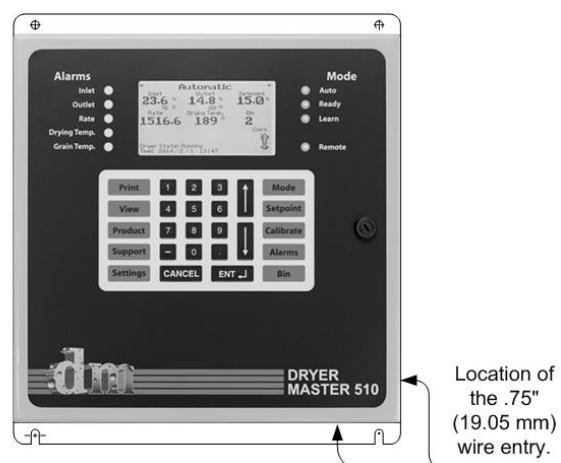
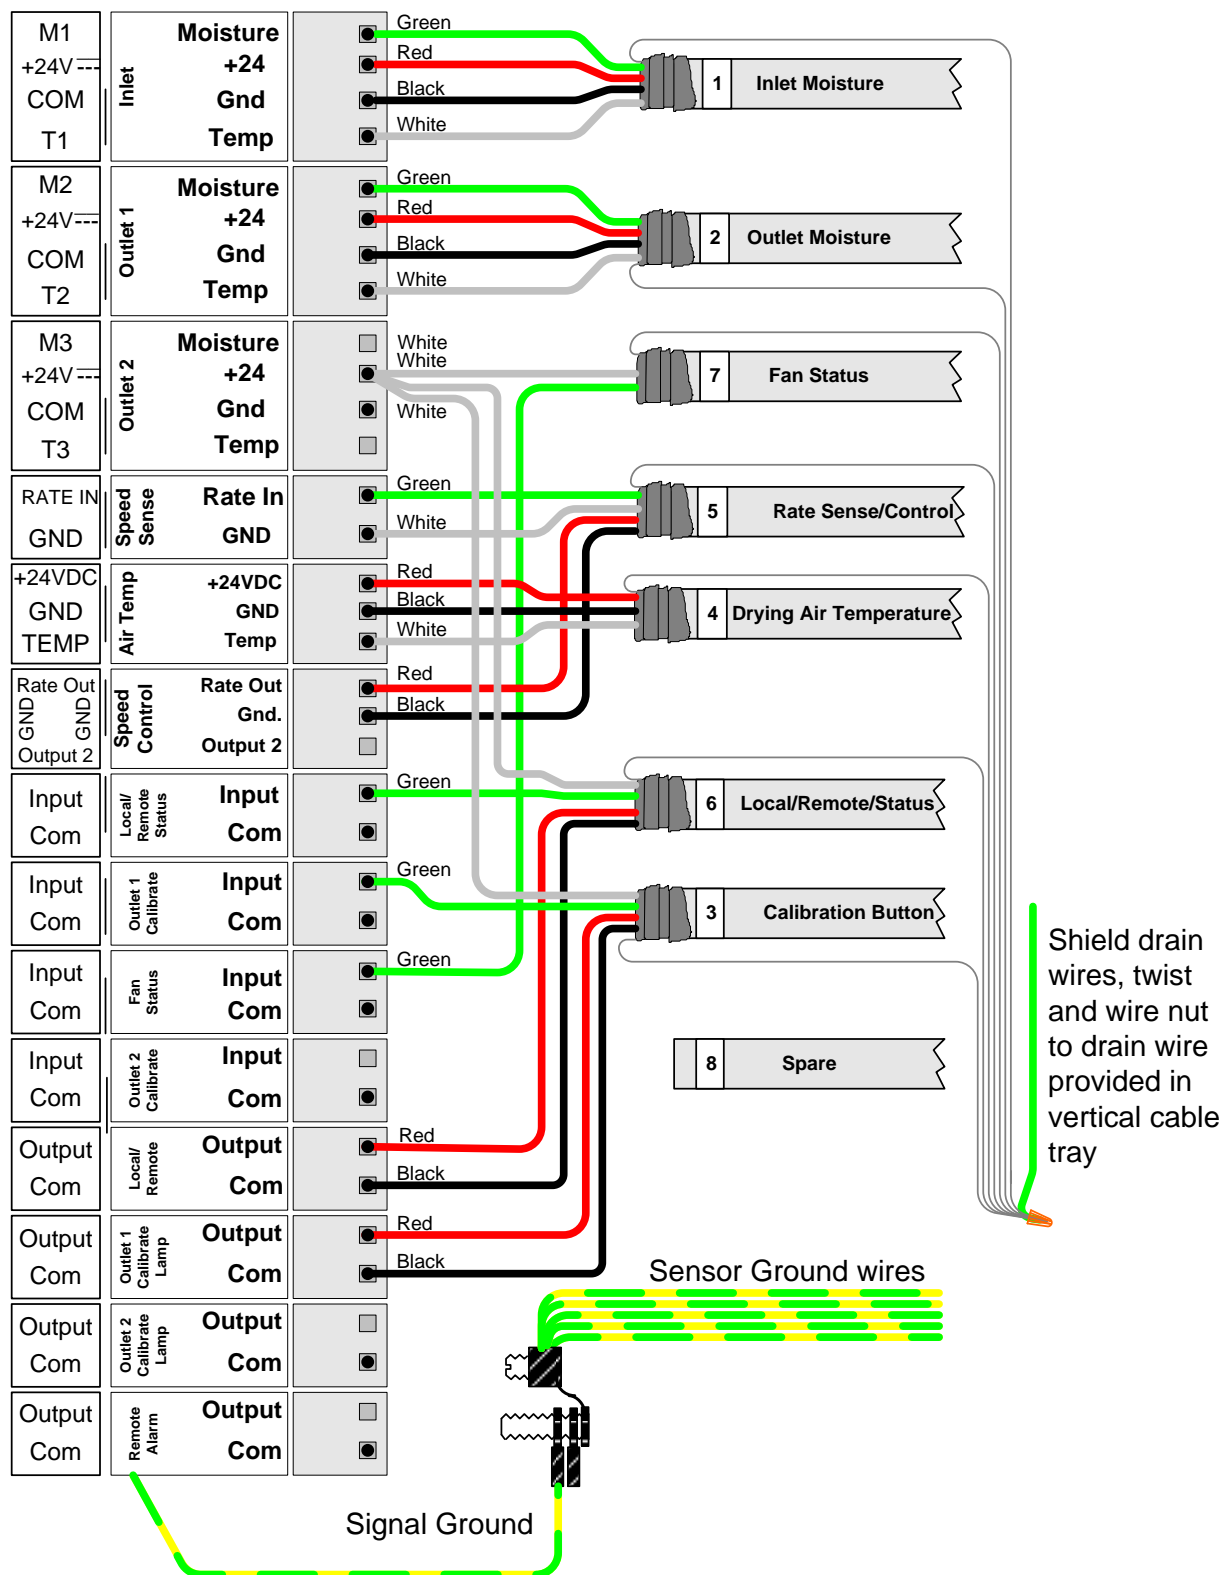

Figure 29 - Wire Entry Locations
Figure 30 - DM510 typical wiring connections
See Figure 28 - Wire placement for a list of the multi-cable requirements and wire placement for a DM510 system with ALL options. To accommodate this number of cables (10 cables at .170" or 4.318 mm diameter) a $\frac{3}{4}$ ", 19.05mm conduit is required. There are two cable entry locations at the bottom right hand side of the cabinet sized for a $\frac{3}{4}$ ", 19.05mm conduit for ease of installation. See Figure 29 - Wire Entry Locations
1 If your system came with a supplied drying air temperature sensor (Figure 29 - Air Plenum Temperature Sensor) install it near the existing temperature sensor and use the included High Temperature Teflon coated wire. If your system came with a signal converter (Figure 30 - Temperature Signal Converter) install the signal converter as per the instructions in Appendix 2.
- Install the conduit into the DM510 Control Panel through the supplied entry plug. See Figure 29 - Wire Entry Locations